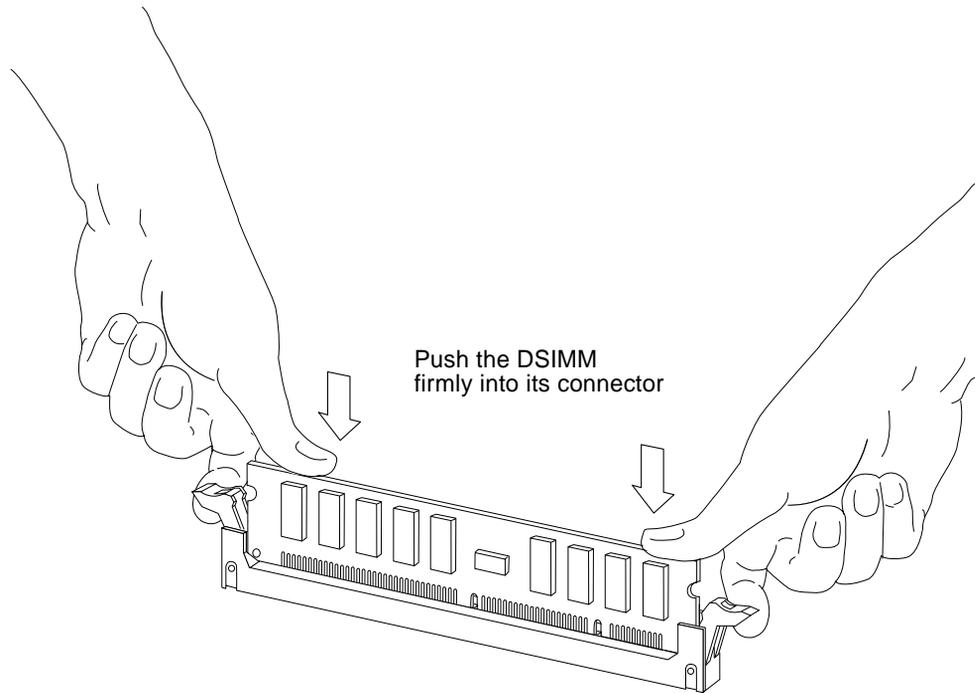

FIGURE 11-17 Installing a DSIMM
4. Place your thumbs as shown in FIGURE 11-17 and push the DSIMM firmly into its connector.